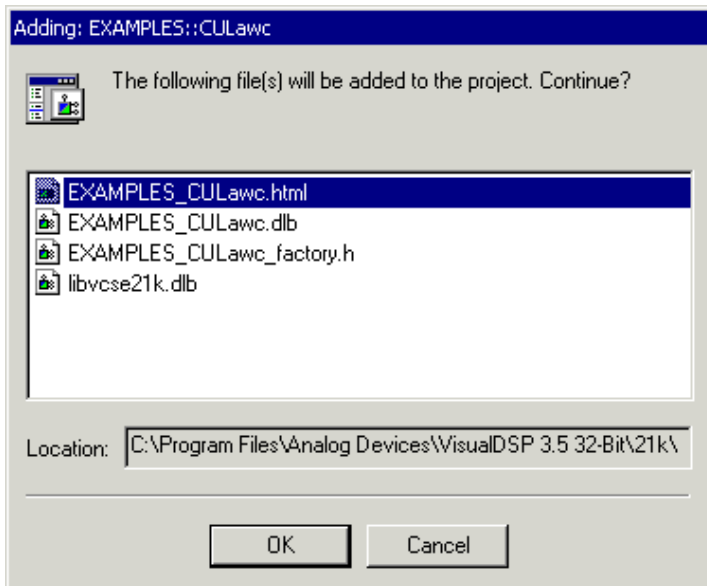

Figure 2-40. Adding Files to the Project
3. Click **Add** to indicate that you want to add the component to the project. Component Manager displays the dialog box shown in Figure 2-40.